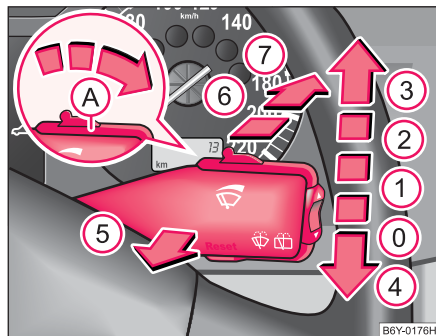

Fig. 39 Windscreen wiper lever
The windscreen wiper lever ⇒ fig. 39 has the following positions:
Washing of the headlights lenses occurs for approximately 1 second about 3 seconds after movement of the lever into position ⑤ ⇒ page 59, fig. 39.